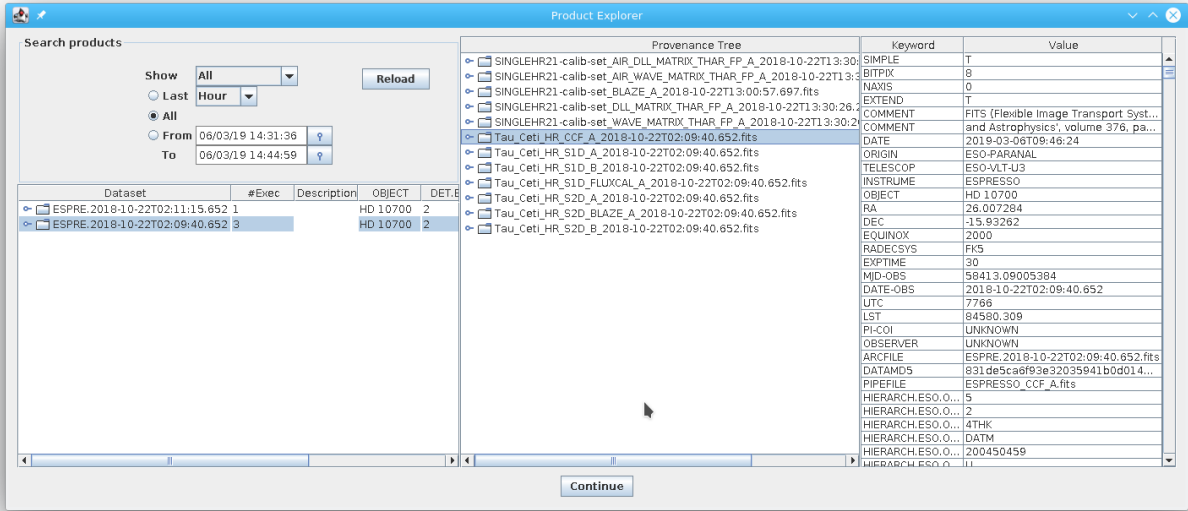

Figure 3.0.4: The Provenance Explorer shows all datasets reduced in previous executions together with the full reduction chain for all the pipeline products.
- Once the reduction of all datasets has finished, a pop-up window called *Product Explorer* will appear, showing the datasets which have been reduced together with the list of final products. This actor allows the user to inspect the final data products, as well as to search and inspect the input data used to create any of the products of the workflow. Figure 3.0.4 shows the *Product Explorer* window. A full description of the *Product Explorer* will be presented in Section 6.3.5.